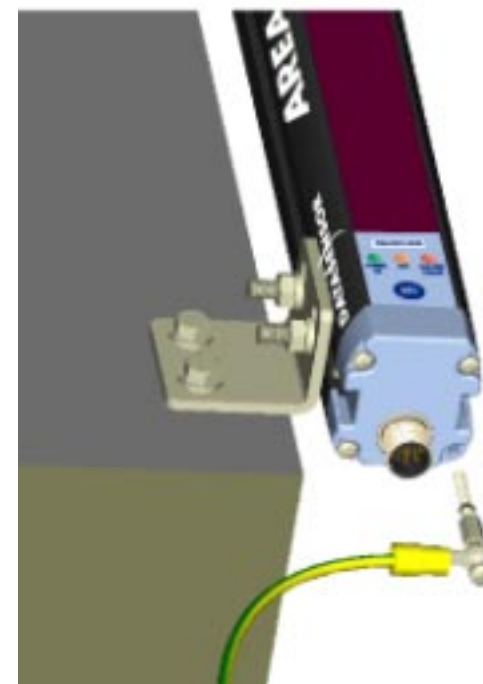

Fig. 6
- The ground connection of the two units is not necessary. However, if required, the connection is possible; tighten the special screw – supplied with the device – instead of one of the 8 screws that lock the heads of each bar (see Fig.6).